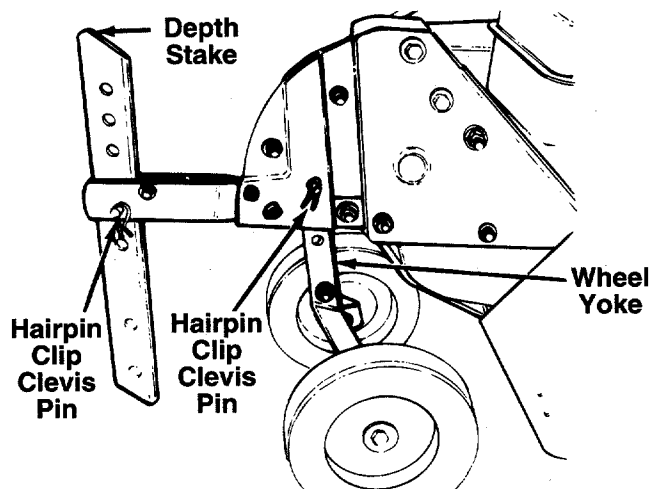

FIGURE 6.
The tiller is shipped with the wheels adjusted such that the unit sits level. During tilling as the tines enter the ground and the front of the tiller lowers, the wheels must be raised to level the unit, which is essential for proper engine operation. This adjustment is made by removing the clevis pin and hairpin clip from wheel yoke, raising the wheels to the desired height, and replacing the clevis pin and hairpin clip. See figure 6.
2. **Depth Stake Adjustment:** The depth stake acts as a brake for the tiller and controls the depth and speed at which the machine will operate. Remove the clevis pin and hairpin clip to raise or lower depth stake. See figure 6.